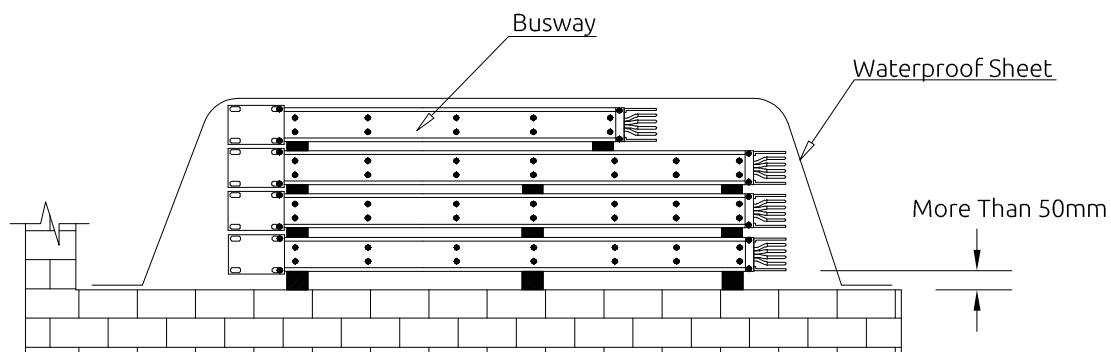

Figure 2. Outdoor storage method
2. Do not store busway in a outdoor environment. If busway must be stored outdoor, make sure that the busway are securely covered to provide maximum protection from weather (mainly rain) and dirt (see Figure 2).